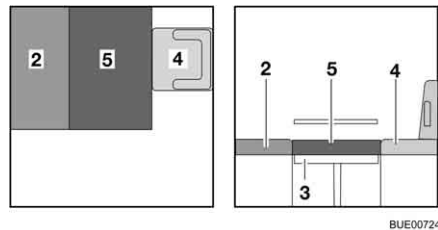

Fig. 122 After conversion
- Place the additional cushion (Fig. 122,5) on the table.
- If required, push the driver's seat (Fig. 122,4) back to the rear.